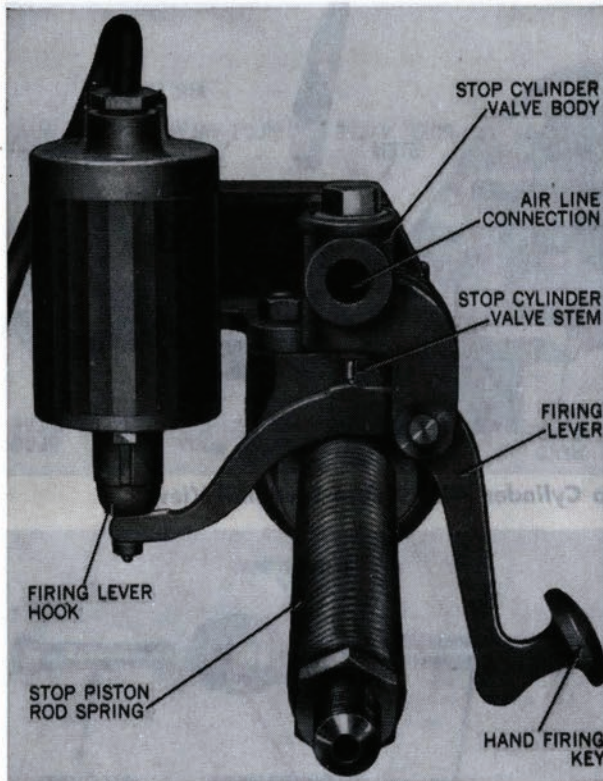

Figure 137—Solenoid, Firing Lever, and Stop Cylinder—Lever Hook Down—Stop Cylinder Valve Closed.
**Firing Lever.** A projection on the upper end of the firing lever contacts the lower end of a stop cylinder valve stem, figures 137 and 138. A hand firing key is at the lower end of the firing lever. When the solenoid, or pressure on the hand firing key, raises the firing lever, the projection on the firing lever forces the stop cylinder valve stem upward. A guard placed around the firing lever prevents accidental operation of the firing mechanism, figure 139.